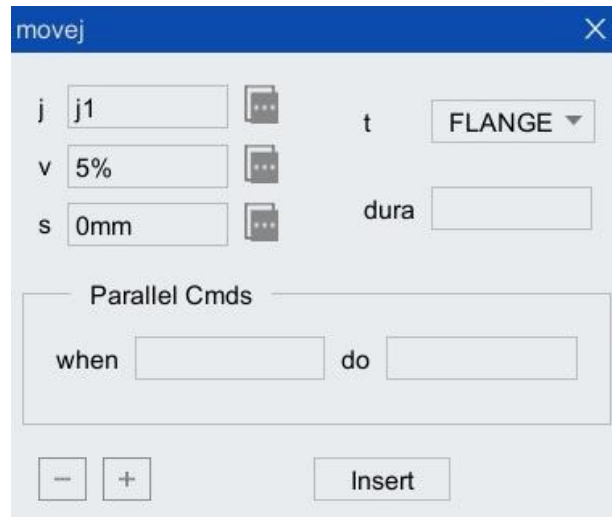

Figure 5-13 "movej" instruction box
Step1. Click " " icon in the toolbar of the program editor to pop up "movej" instruction box, as shown in Figure 5-13.